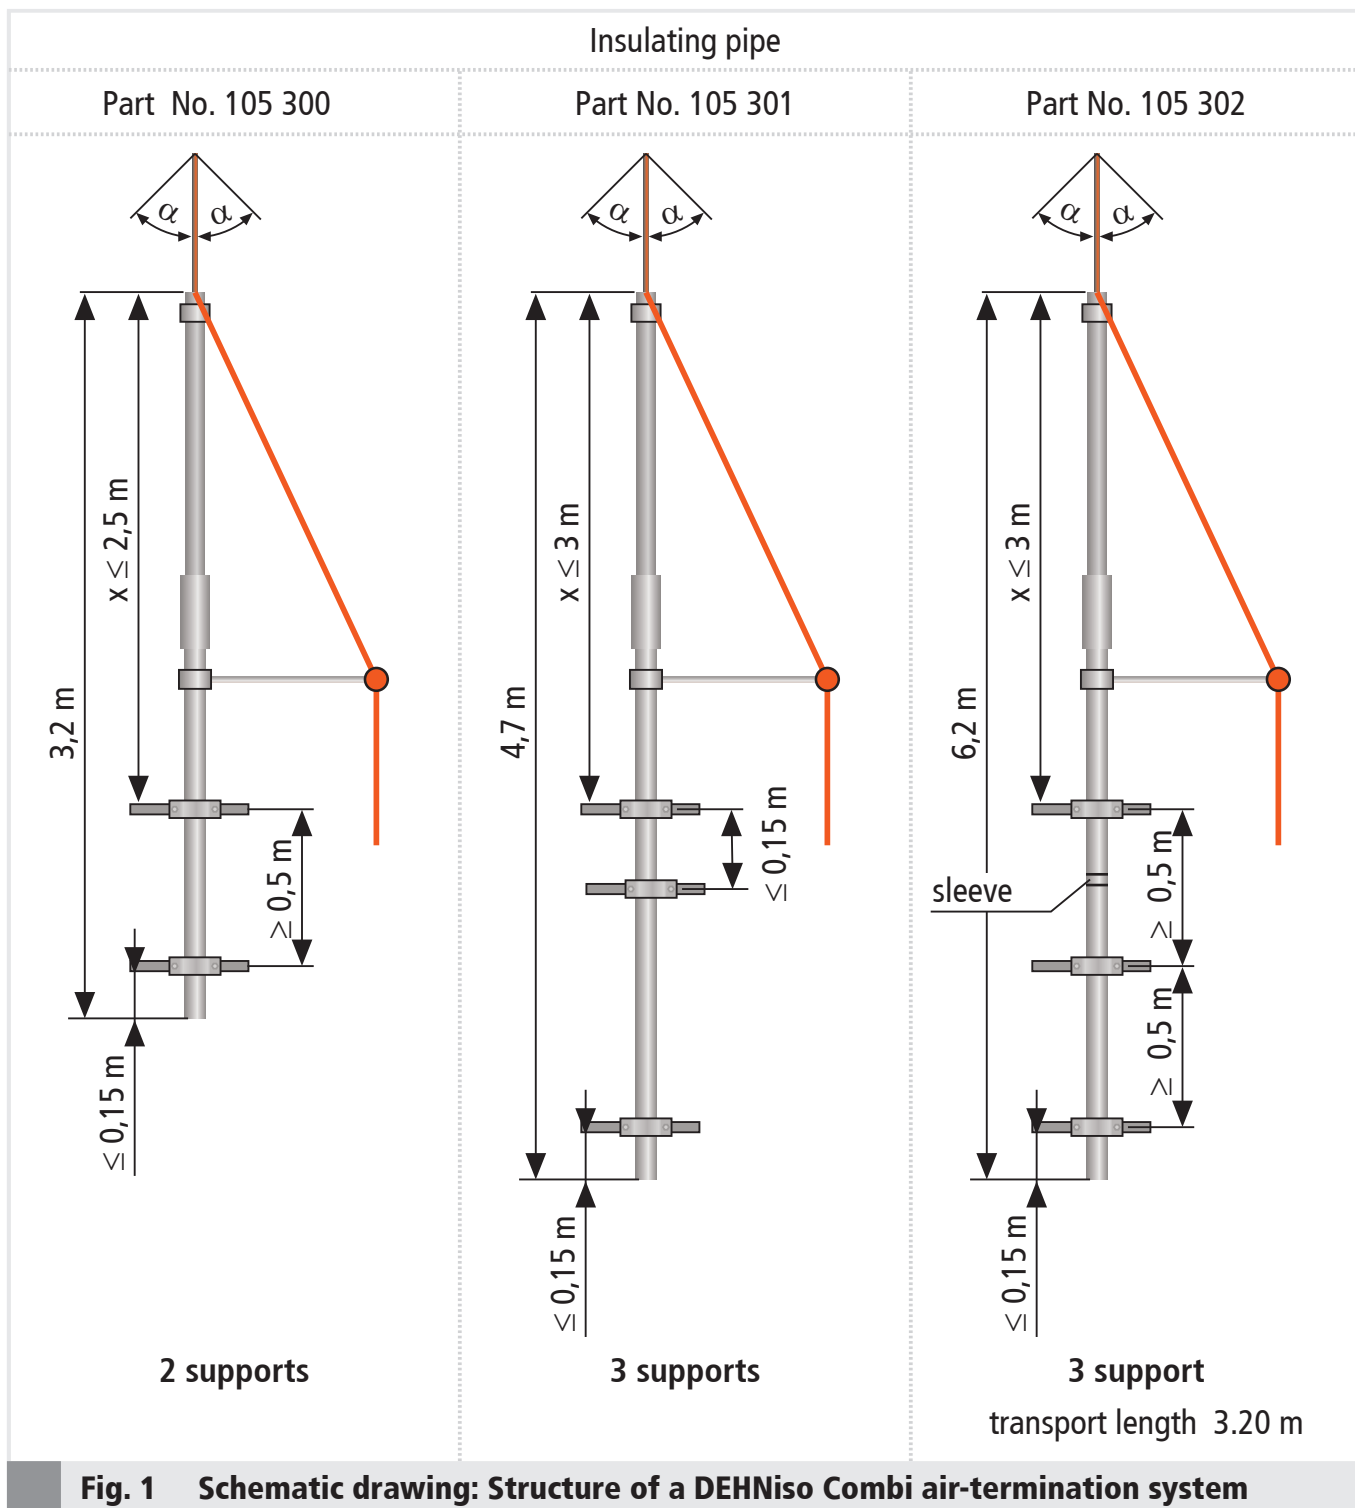

Fig. 1 Schematic drawing: Structure of a DEHNiso Combi air-termination system
Fig. 1 shows the different basic types of an individual air-termination rod as well as data about the max. dimensions and fixing.
The protective area of a single air-termination system is defined by protective angle α accordance with IEC 62305-3, (see Fig. 1). The protective area between several air-termination rods is determined by the rolling sphere protection principle (see Fig. 3).
- The maximum free length x for installing the insulating pipes, based on the top support (fixing point) (see Fig. 1).